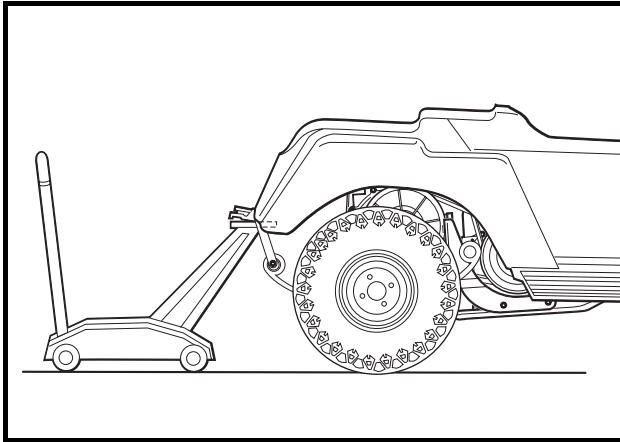

Figure 19-24 Raise Vehicle
10. Continue raising vehicle until frame or trailer hitch is higher than the top of the unitized transmission (enough to allow transaxle and engine to be rolled under and out of vehicle) (**Figure 19-24, Page 19-11**).